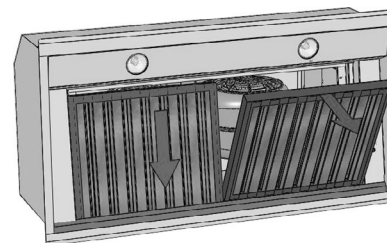

FIG.3
- › When the appliance is used in recirculating mode, the active charcoal filter (Fig.7) needs to be periodically replaced. The charcoal filter can be removed by removing the grease filter first (Fig.3), and by pulling its special plastic tongue until it is unfastened from its slot. Reinsert the charcoal filter by performing the opposite operation.